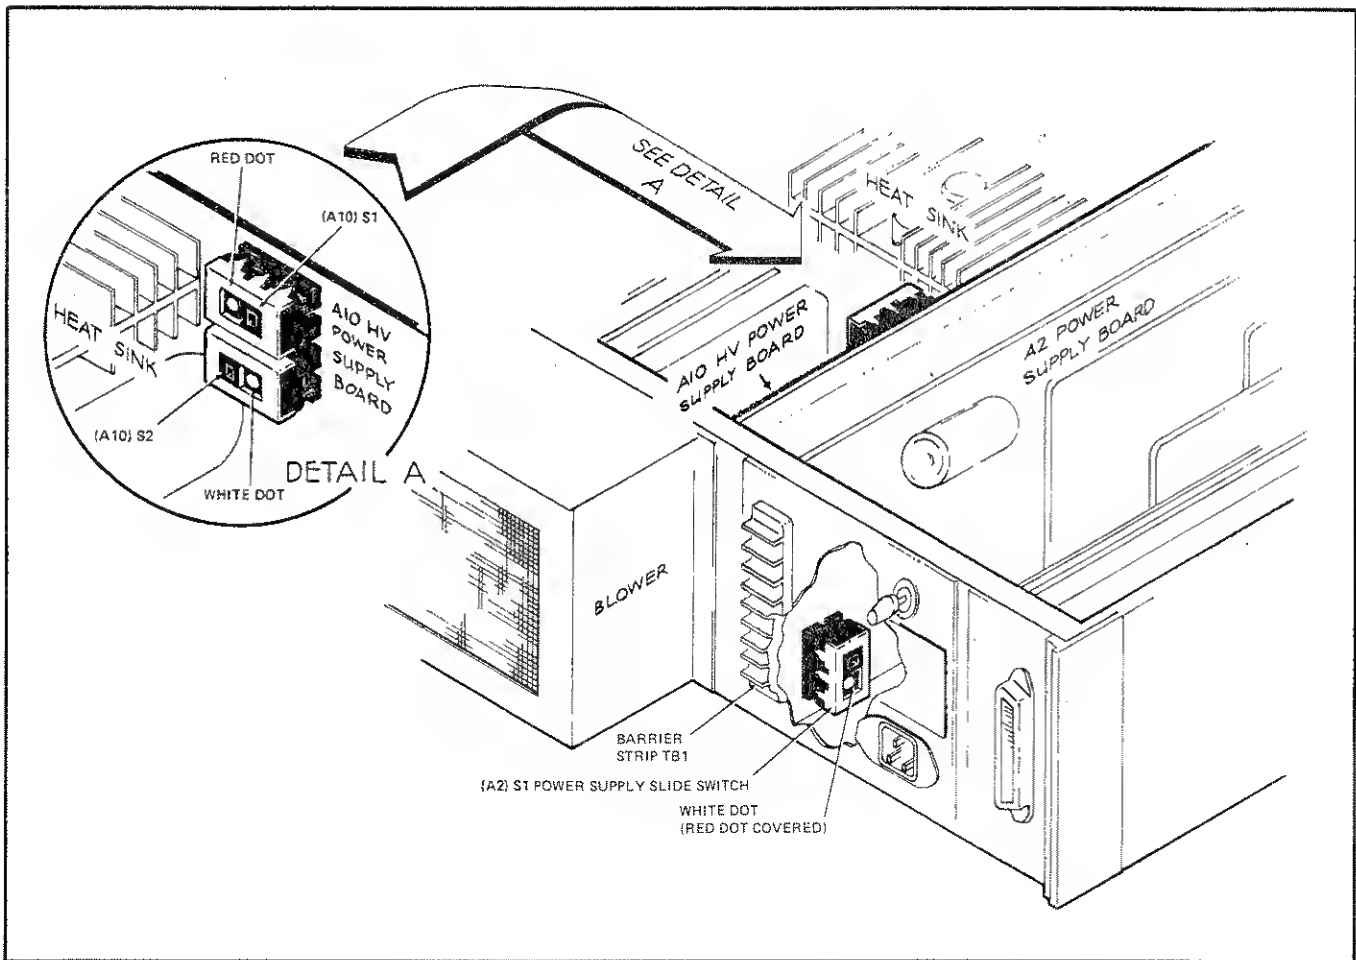

Figure 2-2. POWER SUPPLY SWITCH LOCATION
- d. Refer to Figure 2-2 and locate the three slide switches in the instrument.